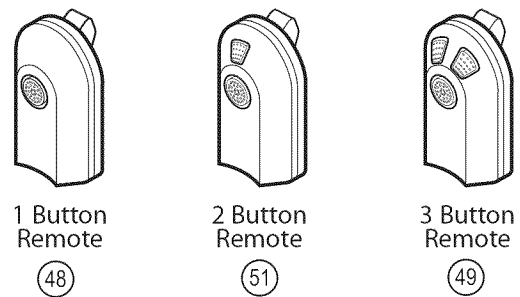

Figure 37 Genie Remote Controls
- A** To program one Button of a Remote Control (**Figure 37**):